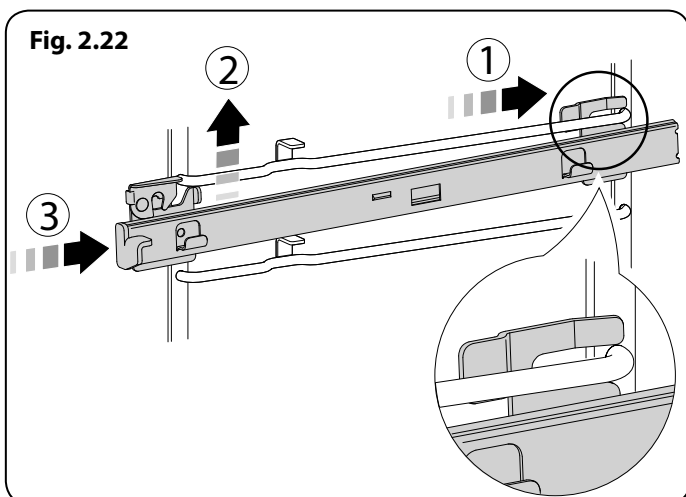

Fig. 2.22
1. With the runner arm in the closed position locate the opening of the upper rear slot onto the side support (Fig. 2.22). **DO NOT** locate any further than the opening at this point.
2. Lift the front of the runner arm to locate the front slot against the side support (Fig. 2.22).
3. Push the runner arm towards the rear of the oven. The catch at the front will lift and drop to secure the runner arm in place (Fig. 2.22).